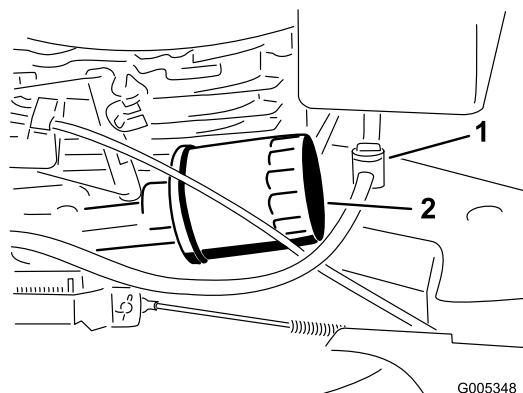

Figure 23
Replace the oil filter (Figure 23) after every 100 operating hours or yearly, whichever comes first.
3. Close the fuel valve (Figure 23).